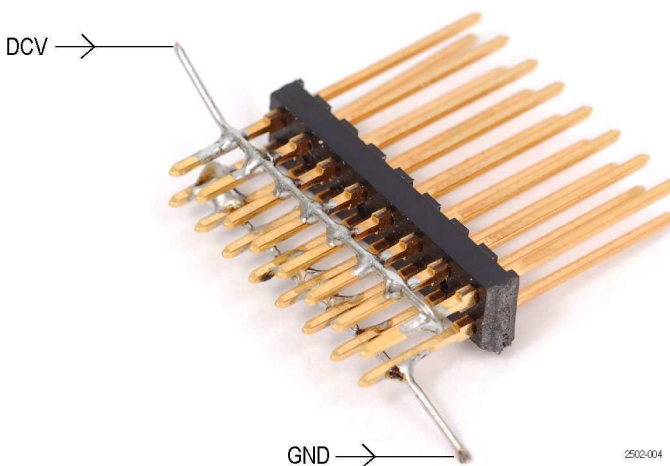

Figure 5: Threshold Accuracy test fixture
1. Set the square-pin strip down and lay a wire across one row of pins on one side of the insulator as shown. Leave some extra wire at one end for connecting to a test lead. (See Figure 5.)